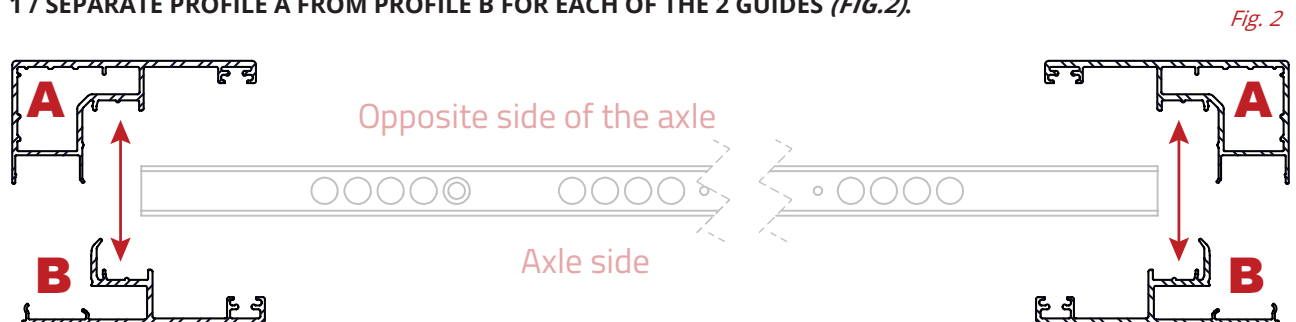

Fig. 2
**1 / SEPARATE PROFILE A FROM PROFILE B FOR EACH OF THE 2 GUIDES (FIG.2).**